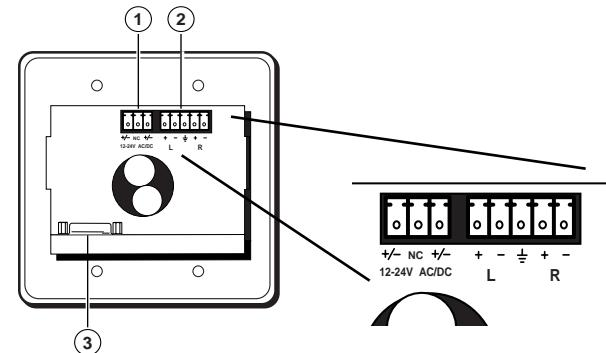

Figure 2-3 — P/2 DA2 WM rear connectors
- 4** The rear connectors are the same for both WM and EC models. Please refer to figure 2-3. Connect the VGA output cable to the 15-pin HD female output connector. To prevent installation debris or objects from entering the opening in the sheet metal just above this VGA connector, it is suggested that some masking tape be used to temporarily cover this opening. Remove this tape after installation is completed. Next, if there is audio output, connect the audio output cable to the 3.5 mm captive screw connector. Finally, connect the power cable to the power input connector. Refer to the "Cabling" and "Connecting audio" sections of this chapter.
1. Connect your display device to the 15-pin HD female video output VGA connector on the rear of the P/2 DA2 WM/EC. See figure 2-3.